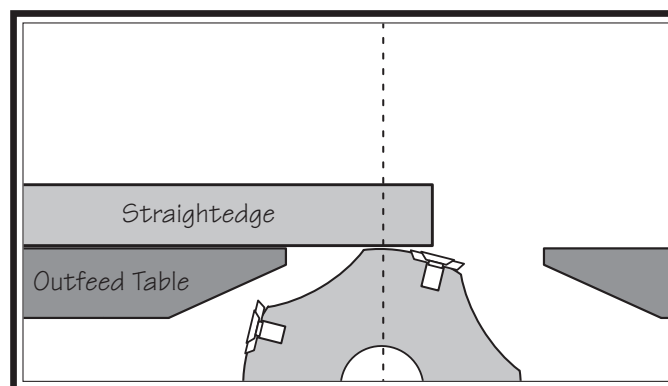

Figure 40. Adjusting outfeed table even with cutterhead body.
5. Place straightedge on outfeed table so it hangs over cutterhead, then lower outfeed table until straightedge just touches cutterhead body, as shown in **Figure 40** (rotate cutterhead if necessary).
1. Place straightedge on outfeed table so it hangs over cutterhead, then lower outfeed table until straightedge just touches cutterhead body, as shown in **Figure 40** on **Page 35** (rotate cutterhead if necessary).